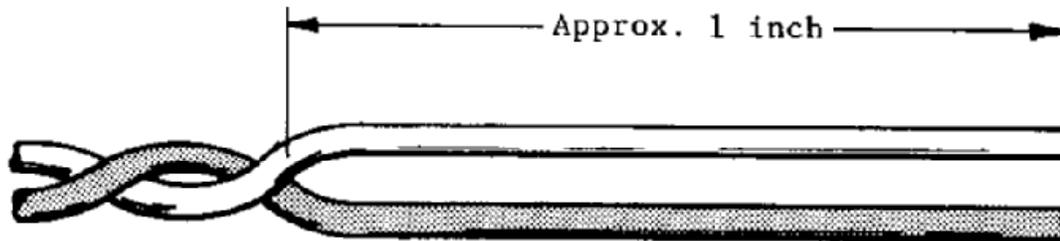

Figure 5-1. Preparation for Stripping
1. Untwist and straighten the wires for a length of approximately 1.0 inch (Figure 5-1).